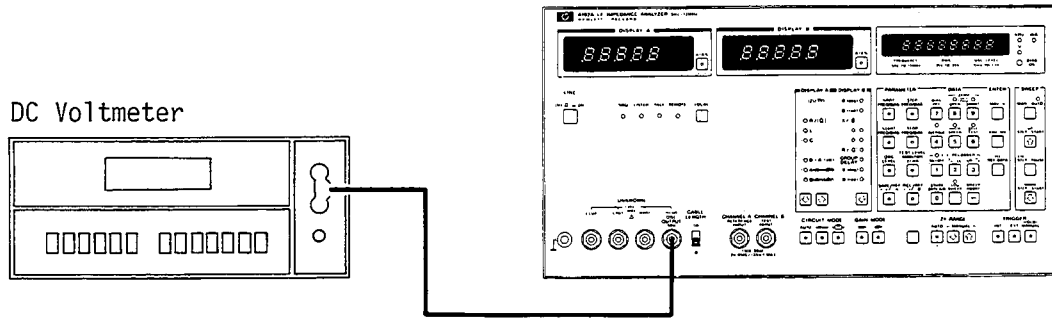

Figure 4-10. DC Bias Voltage Accuracy Test Setup
- a. Connect the 3465A to the 4192A as shown in Figure 4-10. Set the 4192A's controls to Initial Settings .